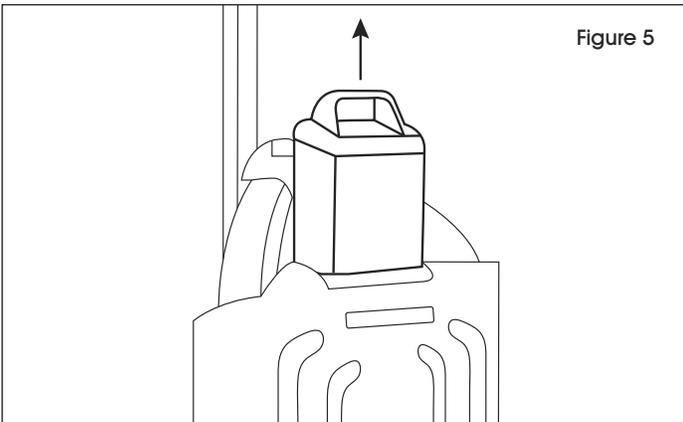

Figure 5
**NOTE:** When one green and one red LEDs are lit charging is in progress. When two red LEDs are lit charging is complete. Figure 5 shows the top view of the charger base contact pins, make sure to plug in the battery accordingly. If the battery is not fully charged after more than five hours contact Uline Customer Service.
1. Lift the battery out of the vehicle. (See Figure 5)